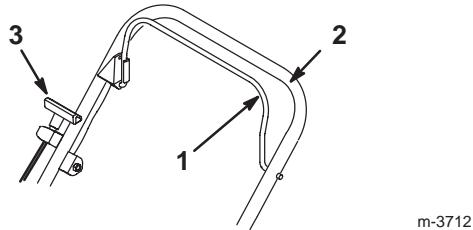

Figure 6
The starter handle and the blade control bail are on the upper handle as shown in Figure 6.
3. Hold the blade control bail against the upper handle (Fig. 6).
- Pull the starter handle lightly until you feel resistance, then pull it sharply (Fig. 6). Allow the rope return to the handle slowly.